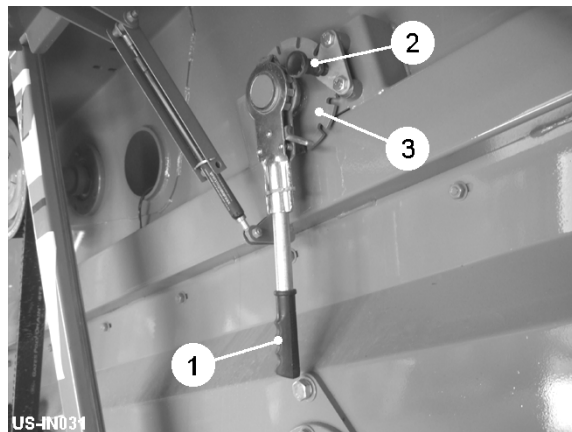

Fig 11
The initial height of the draper web is set using the ratchet arm (item 1, fig 11).
2. Support the weight of the web by holding the ratchet arm (item 1, fig 11).
3. Pull out the plunger (item 2, fig 11) and rotate the ratchet arm allowing the plunger to rest on the slotted plate (item 3, fig 11).